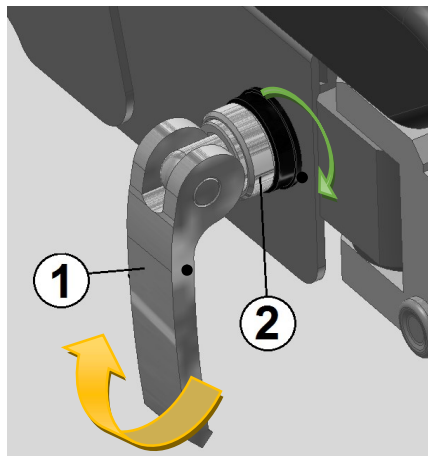

Fig. 13 Adjusting the clamping force of the handle
Using the footrest may result in loosening of the clamping lever that blocks the sideways movement of the footrest. Such loosening means that the footrest locking mechanism is not secure and poses potential danger when the operating table is in use. If a situation like this occurs, adjust the clamping force of the handle by following these steps: release the movement locking mechanism by lifting up the lever (fig. 13, pos. 1), set the clamping force by rotating the handle nut (fig. 13, pos. 2) and lock the handle by pushing its lever down towards the frame. The clamping force is set correctly when it is impossible to move the footrest with the handle closed.